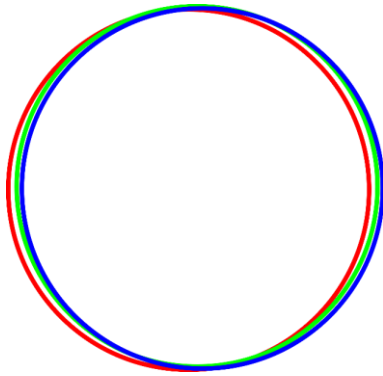

Fig. 17
- 03) Project a circle with the laser on a wall or other suitable projection surface (see Fig. 17). You can also use one of the test patterns available in the Pangolin software.